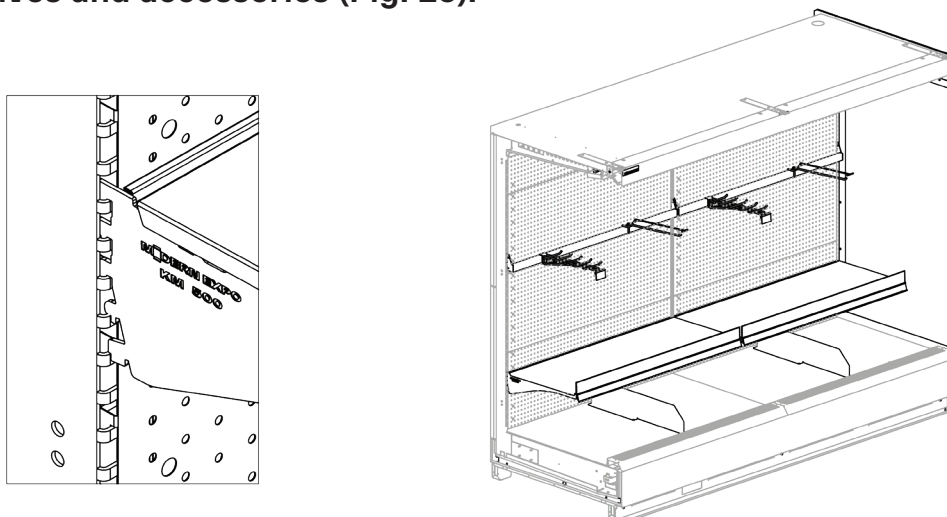

Fig. 25. Installing shelves and accessories
• **install shelves and accessories (Fig. 25).**